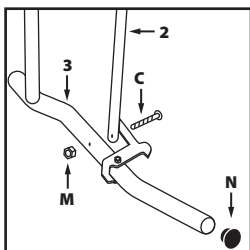

Fig. 4
- Select the components labelled **2** and **3**. Attach **2** to **3** using the fixings **C** and **M (Fig. 4)**.